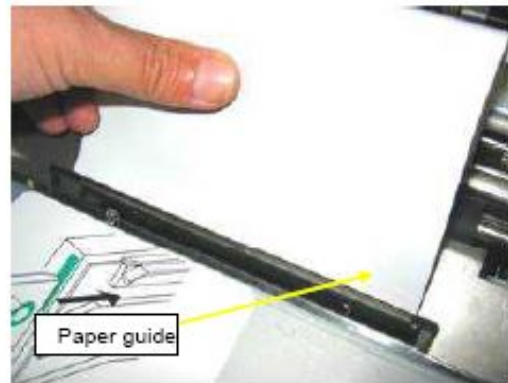

Fig.45
3. Paper tip is put into the paper guide. Fig.45